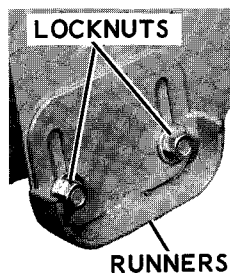

Figure 4
a. An adjustable runner is provided on each end of the blower housing (figure 4). Raising or lowering these runners controls the distance the scraper blade is held above the surface being plowed. Adjustment is accomplished by loosening the two nuts on each of the runners to the desired position and retightening the nuts.